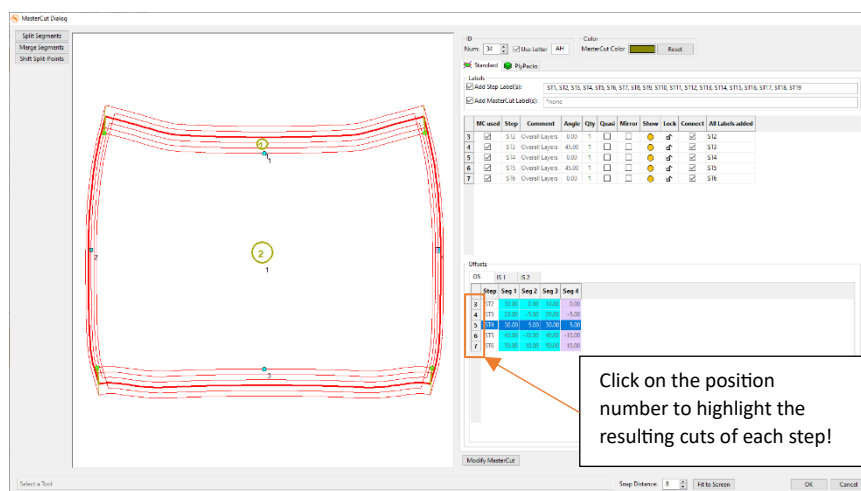

Figure 400
5. As you can see NestKing accepts inner geometries outside the outer contour without complaining. In contrary it even adds the top circle to the RawCut as long it is inside or intersecting the outer contour of the RawCut itself. Just click through the steps and see how the added circles influences the resulting cuts (Figure 400).